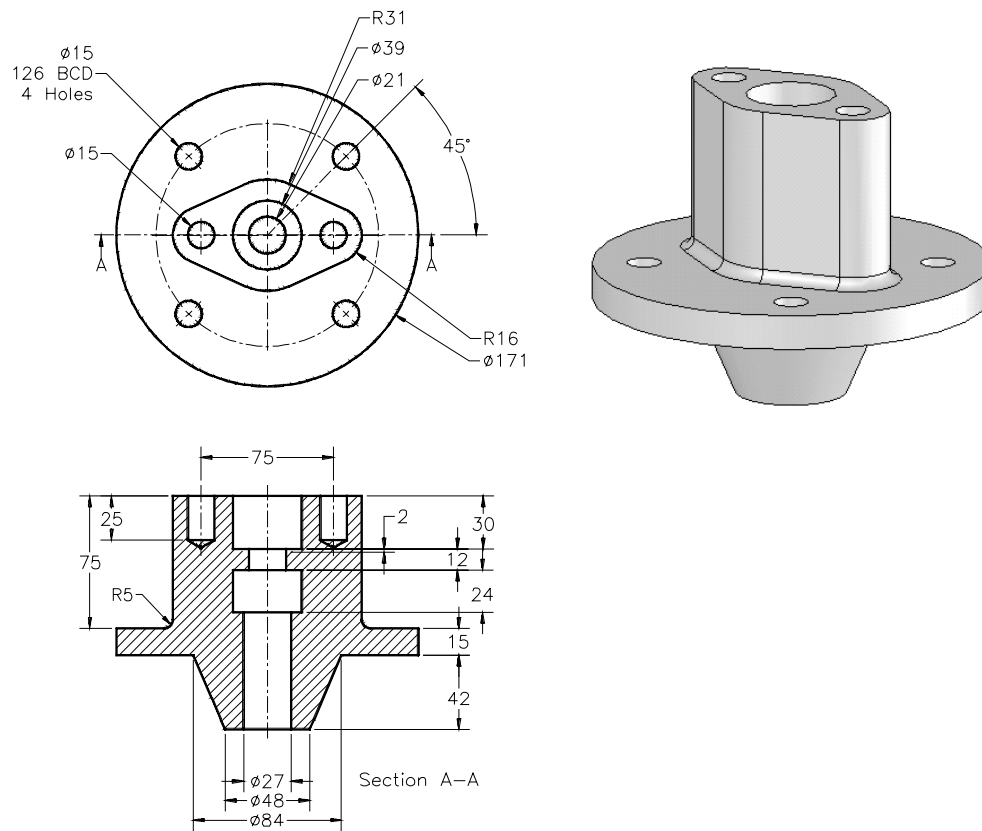

Figure 9-53 Views and dimensions of the model for Tutorial 2
In this tutorial, you will create the model, shown in Figure 9-53, and then edit it with the **Move/Size Features** option selected. The views and dimensions of the model are shown in the same figure.
1. Create the other features of the model by referring to Figure 9-53 and using the **Simple Hole**, **Hole Wizard**, and **Mirror** tools.